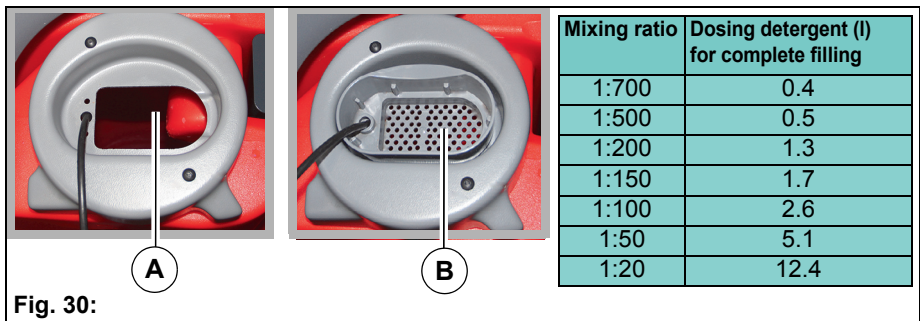

Fig. 30:
2. Remove insert in grey cover **Fig. 30-A**.
4. Add detergent according to the manufacturer's regulations via the sieve insert **Fig. 30-B** (observe table above).